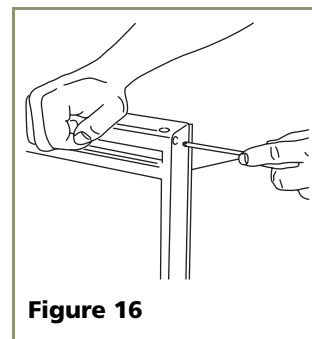

Figure 16
3. Remove two outside screws holding door handle. Slightly separate door handle from door (see **Figure 16**).